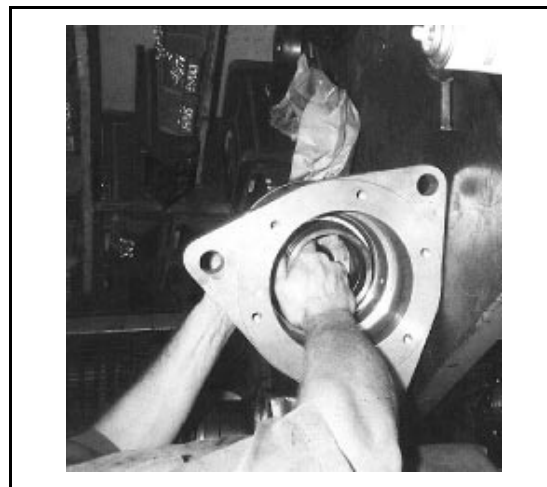

FIGURE 6 (MSSM0303AE)
5. Slip the seal sleeve into the bearing housing as shown in FIGURE 6 below right, using care not to damage or fold under any of the seal lips. Be sure to insert the sleeve in the proper direction (see Bearing Assembly drawing).